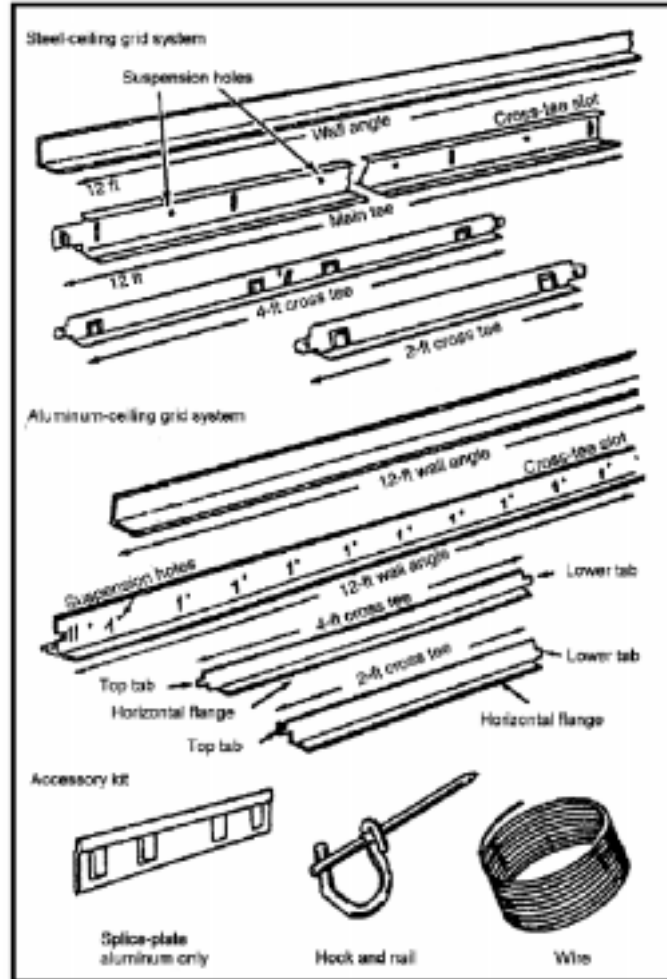

Figure 051-236-1189-1
- (1) Count the number of feet of wall angles, runners, tees, and other materials needed by using a plan.
- (2) Plan for lighting and make decisions about how the panels will fit.
- (3) Select a grid system (either steel or aluminum), the layout of a grid pattern, and the material required (Figure 051-236-1189-1).